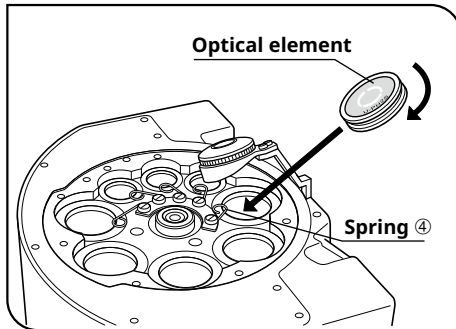

Fig. 8
When inserting, push the spring ④ on the inner side of the turret lightly with the side of the ring (Fig. 8).